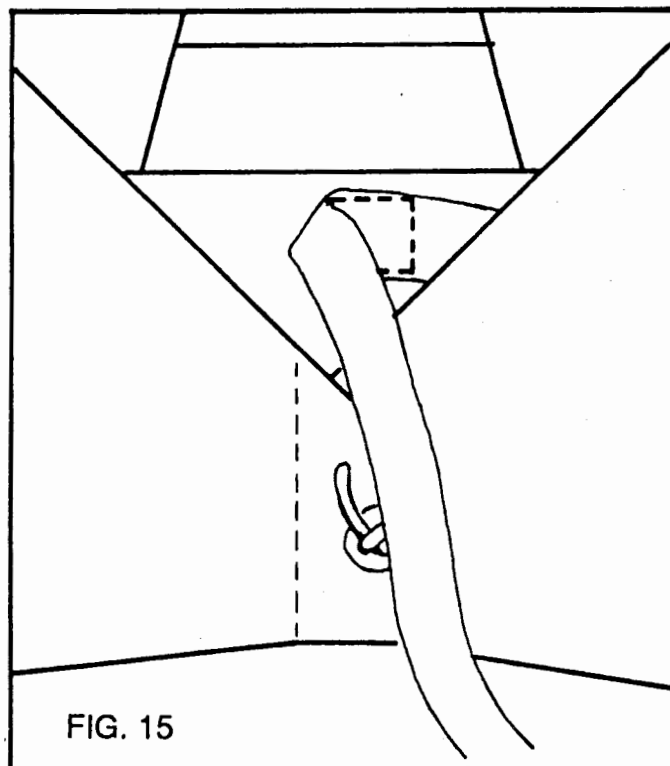

FIG. 15
14) Mate the small patch of velcro just above the curved pin on the main bridle to the corresponding patch in the center of the main top flap as shown in FIG. 15. This is important because it assures that the pilot chute has enough slack to withdraw the pin.